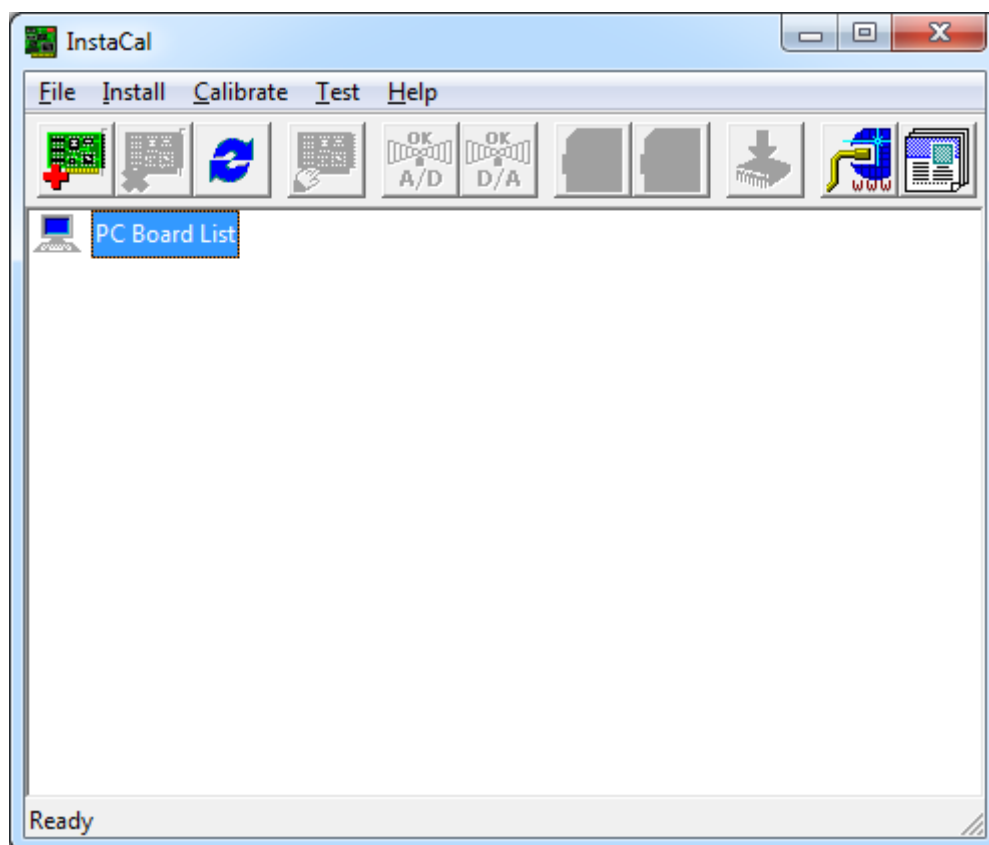

Figure 1. Instacal window.
- Use refresh button, if your Instacal window is the same as in *Figure 1*.